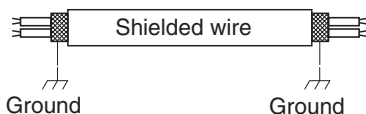

Fig. 4-7
- (5) Use shielded wires for inter-unit control wiring (c) and ground the shield on both sides, otherwise misoperation from noise may occur. (Fig. 4-7)